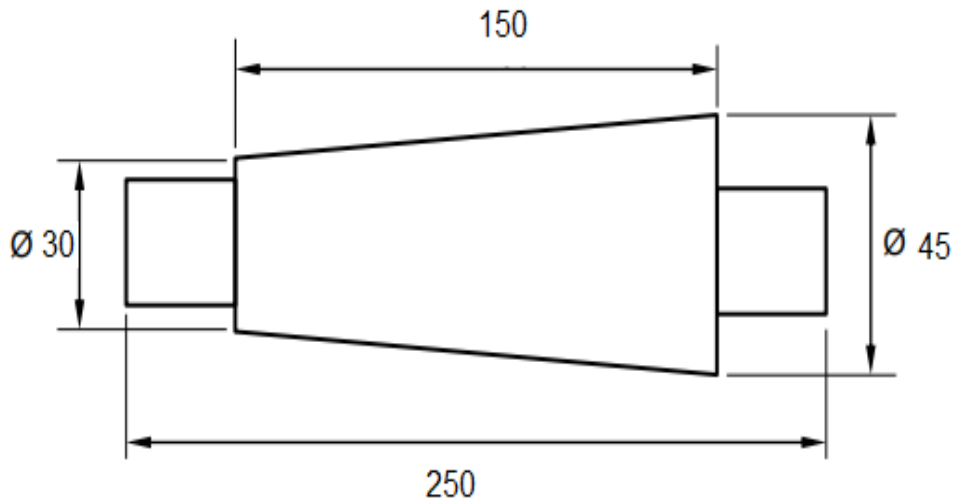

FIGURE 4
11.2 A spindle is to be turned to the dimensions given in FIGURE 4 below: